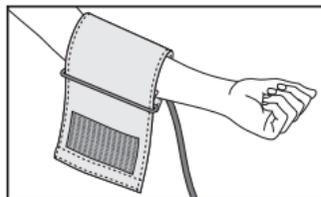
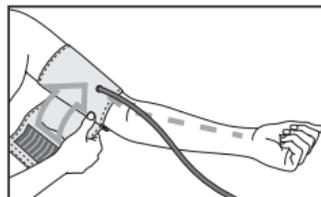

Fig. 1
Fig. 2
- The blood pressure must be measured on a bare upper arm. If the cuff is completely open, thread the end of the cuff through the metal ring to form a loop (see Fig. 1). Position the cuff on the upper arm so that the lower edge is 2-3 cm above the crook of the arm and above the artery (see Fig. 2). The tube points to the centre of the palm.